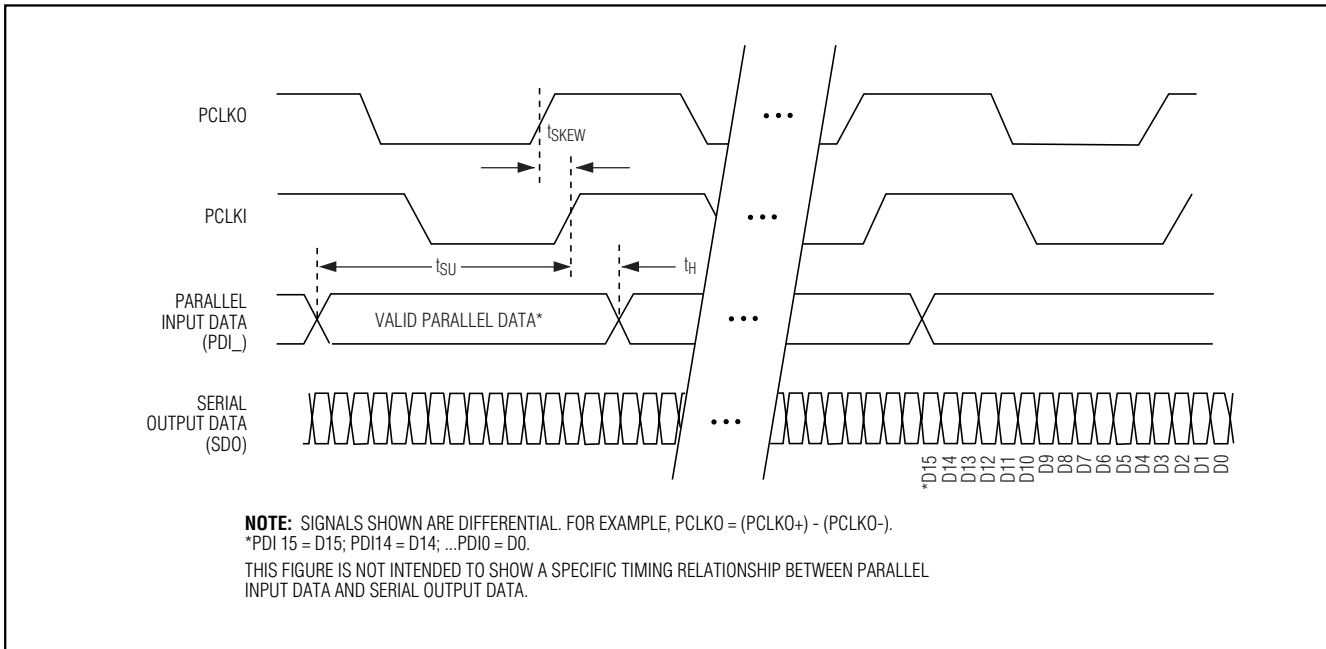

Figure 2. Timing Diagram
**Note 2:** Setup and hold times are relative to the rising edge of PCLKI+, measured by applying a 155.52MHz differential parallel clock with rise/fall time = 1ns (20% to 80%). See Figure 2.